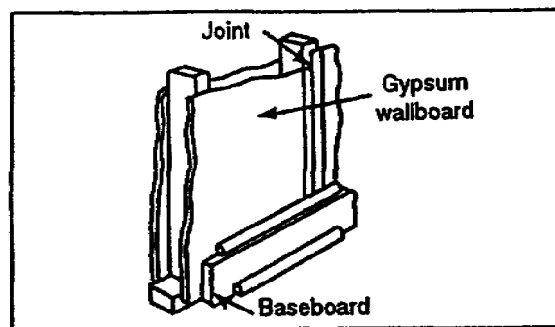

Figure 2-22. Gypsum board sheathing
b. Gypsum Board. The long edges of the 4 by 8 boards are tongue-and-grooved. Gypsum board can be nailed (together with the wood siding) directly to the studs. Gypsum sheathing is fireproof, water resistant, and windproof. It does not warp or absorb water and does not require the use of building paper (see Figure 2-22).